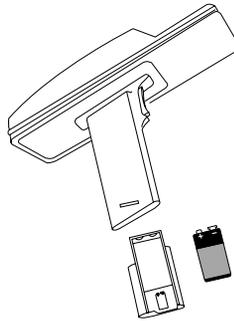

Figure 6-4. The Alkaline Battery Adapter
1. Insert the battery into the alkaline battery adapter as shown in Figure 6-4. Verify that the positive (+) and negative (-) signs on the battery are on the same side as the positive and negative signs on the picture of the battery inside the adapter.